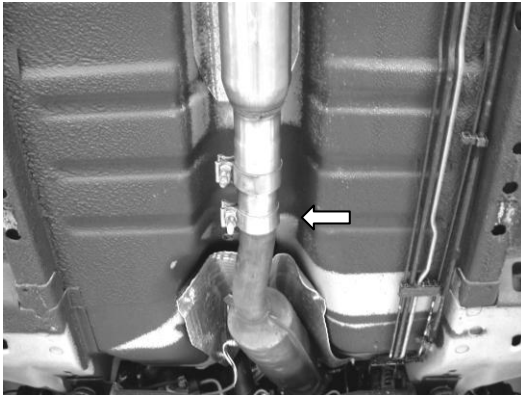

Figure 4
1. Place a clamp over the expanded end of front adapter pipe and set it into position as shown in figure 4. **DO NOT** tighten the clamp.